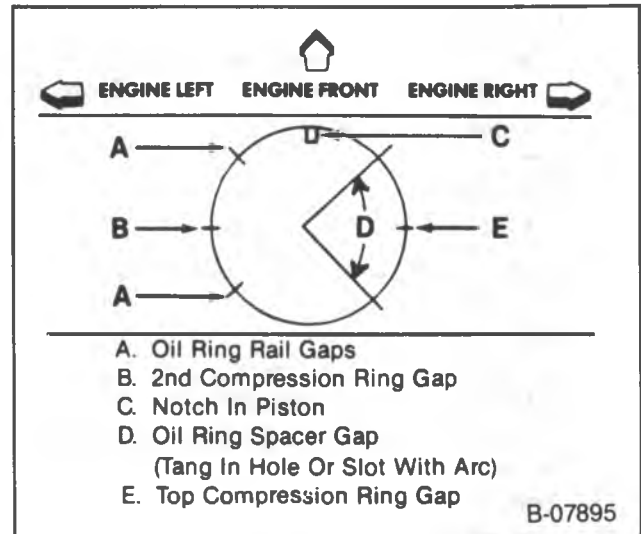

Figure 30 — Piston Ring End Gap Locations
- Locate the piston ring end gaps as shown in figure 30. Lubricate the piston and rings with engine oil.
- The piston must be installed so that the notch in the piston faces the front of the engine (figure 30).